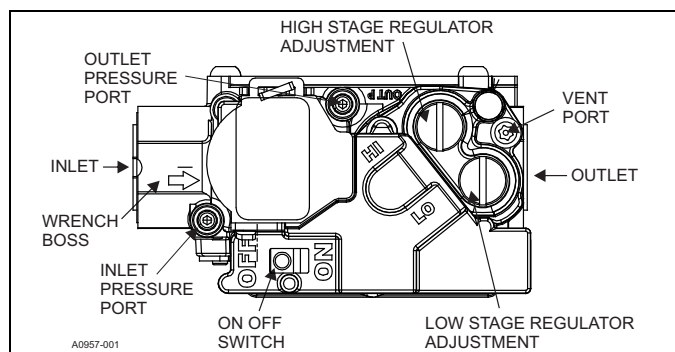

Figure 39: Gas valve
The inlet and manifold gas pressure may be measured by connecting the "U" tube manometer to the gas valve with a piece of tubing. Follow the appropriate section in the instructions below. See Figure 39 for the locations of the pressure ports on the gas valve.
Connect the positive side of the manometer to the **Out P** tap on the gas valve. Do not connect any tubing to the negative side of the manometer, as it references atmospheric pressure. See Figures 39 and 40 for connection details.
This gas valve has separate regulator adjustment screws for high fire and low fire, as shown in Figure 39. The procedure below is used to adjust either the high fire manifold pressure or the low fire manifold pressure.
1. See Figure 39 for location of pressure regulator adjustment cap and adjustment screws on main gas valve.
3. Place jumper wire from W1 to W2 to R on the furnace control board for the furnace to operate high fire. Once correct manifold pressure is set (HI), remove the jumper wire from W2 for the furnace to operate on low fire. Set the manifold pressure (LO) to correct manifold pressure.